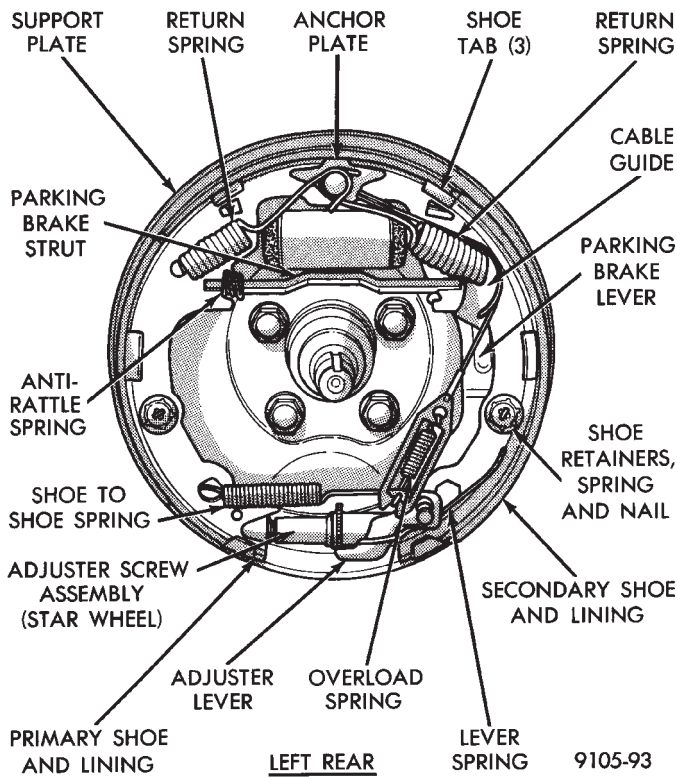
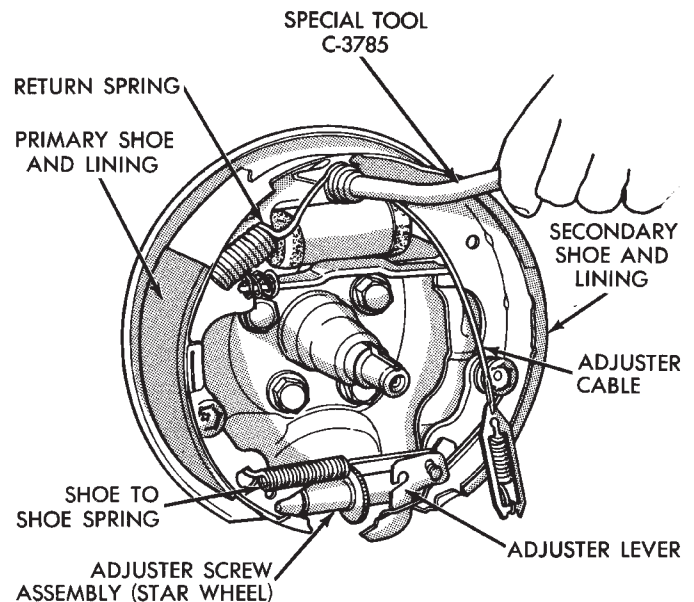
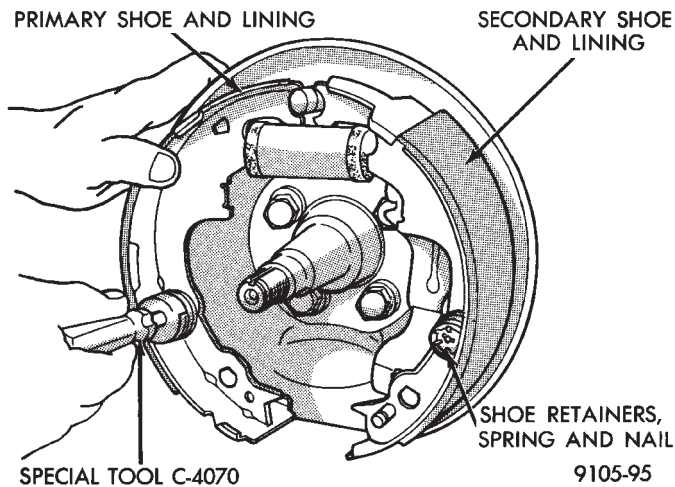

Fig. 1 Rear Wheel Brake F.W.D. Applications
Fig. 3 Removing or Installing Brake Shoe Return Springs
Fig. 4 Removing or Installing Shoe Retainers, Springs, and Nails
Rear wheel brakes (Fig. 1 & 2) are two shoe, internal expanding type with automatic application adjusters. The lower ends of the brake shoes are connected by a tubular star wheel adjusting screw (Figs.1 and 2).
The procedure for rear brake shoe removal, is the same for both the Front Wheel Drive and All Wheel Drive van applications. Though some of the brake components may be slightly different (Figs. 1 & 2).
(3) Using Remover Special Tool C-3785, remove brake shoe return springs (Fig. 3). (Note how secondary shoe return spring overlaps primary shoe return spring). (Figs. 1 and 2).
(5) Disengage adjusting lever (Figs. 1 & 2) from spring by sliding it forward to clear pivot, then working it out from under spring. Remove spring from pivot. Remove shoe to shoe spring from secondary shoe web and disengage from primary shoe web. Remove spring.
(6) Disengage primary and secondary shoes from the adjuster screw assembly. Remove adjuster screw assembly.
(7) Remove brake shoe retainers, springs and nails using Remover Special Tool C-4070, (Fig. 4), and remove from support.
(1) Slide primary shoe against support plate, at the same time engage shoe web with wheel cylinder piston and against anchor. Using Installer Special Tool C-4070, install shoe retaining nail, retainer, and spring (Fig. 4).
(3) Engage primary shoe return spring in web of shoe and install free end over anchor, using Spring Installer, Special Tool C-3785 (Fig. 3).